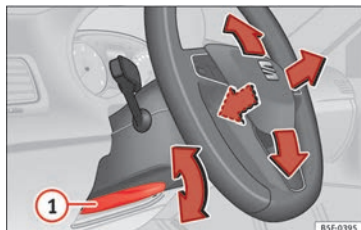

Fig. 18 Lever in the lower left side of the steering column.
• Adjusting the position of the steering wheel: Pull the » » **Fig. 18** ① lever down, move the steering wheel to the desired position and lift the lever back up until it locks.